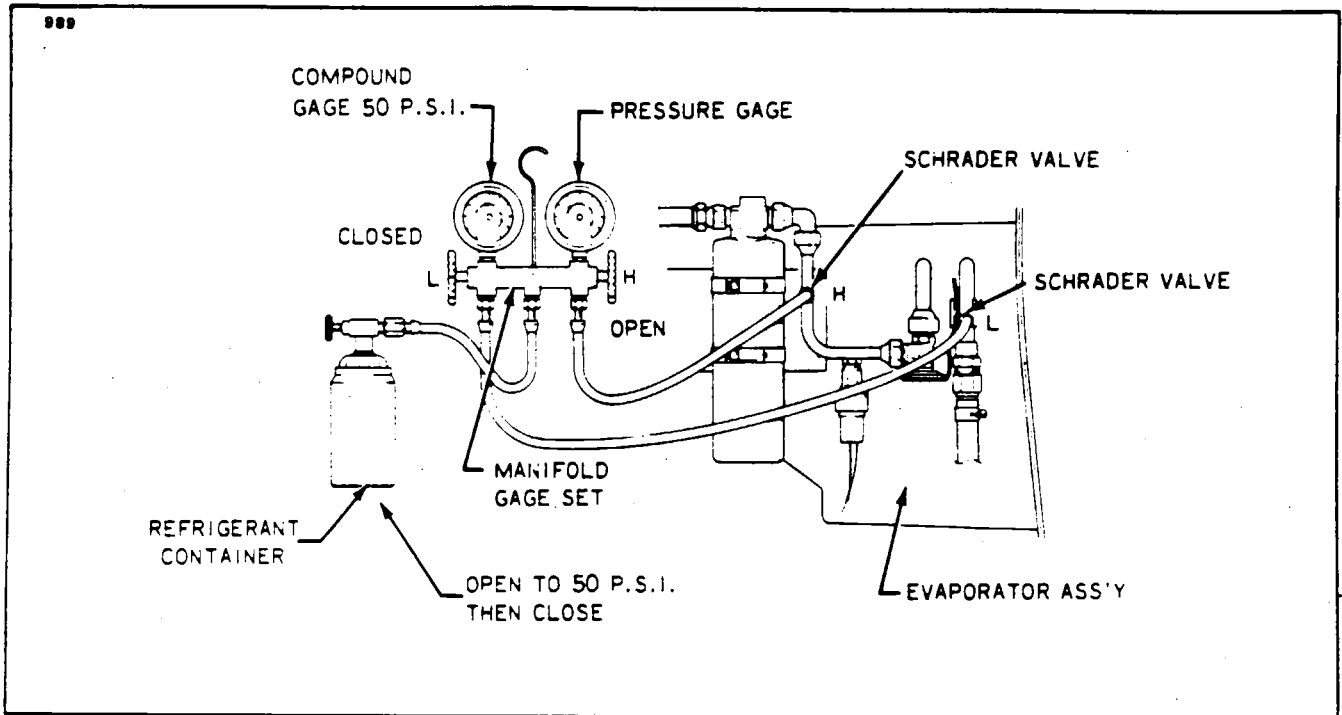

Figure 21-7. Leak Test Hookup
1. Connect the manifold gauge set into the system and determine if there is any refrigerant in the system. A minimum of 50 psi refrigerant pressure in the system is needed for leak detection. (Refer to Figure 21-7.)